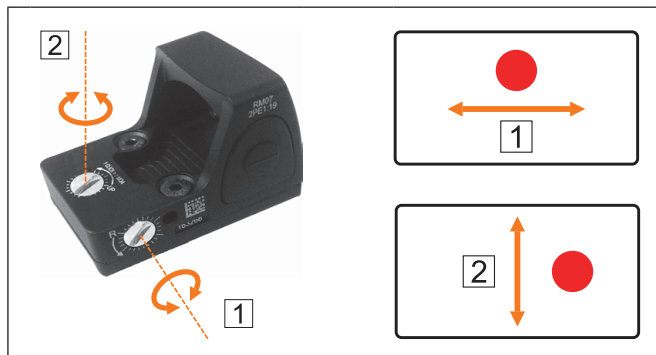

Fig. 24: Sight – setting the distance using the adjustment screws
4. Set the sight using the adjustment screws (fig. 24).